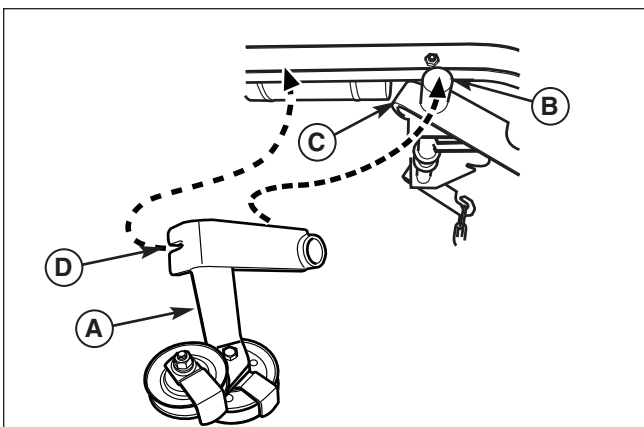

Figure 8. Front Idler Pulley Installation
2. Mount the front idler pulley assembly (A, Figure 8) onto the left stub (B) at the end of the lift assembly cross-shaft (C).